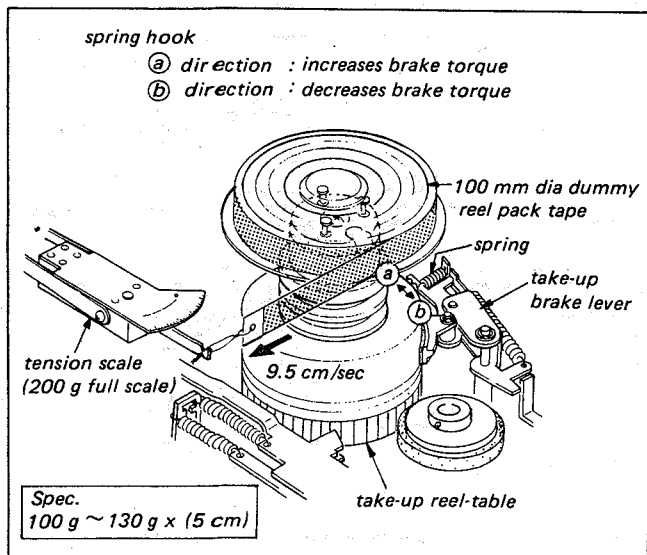

Fig. 4-19. Take-up reel-table brake torque adj.
3. Install a 100 mm diameter dummy reel pack tape (Jig Ref. No. J-17) on the Take-up Reel-Table as shown in Fig. 4-19.
4. Hook a tension scale (200 g full scale) (Jig Ref. No. J-17) on an end of the dummy reel pack tape. Pull out the tape at the constant speed of approx. 9.5 cm/sec in the direction shown in Fig. 4-19 scale reading should be 100 g ~ 130 g (x 5 cm).